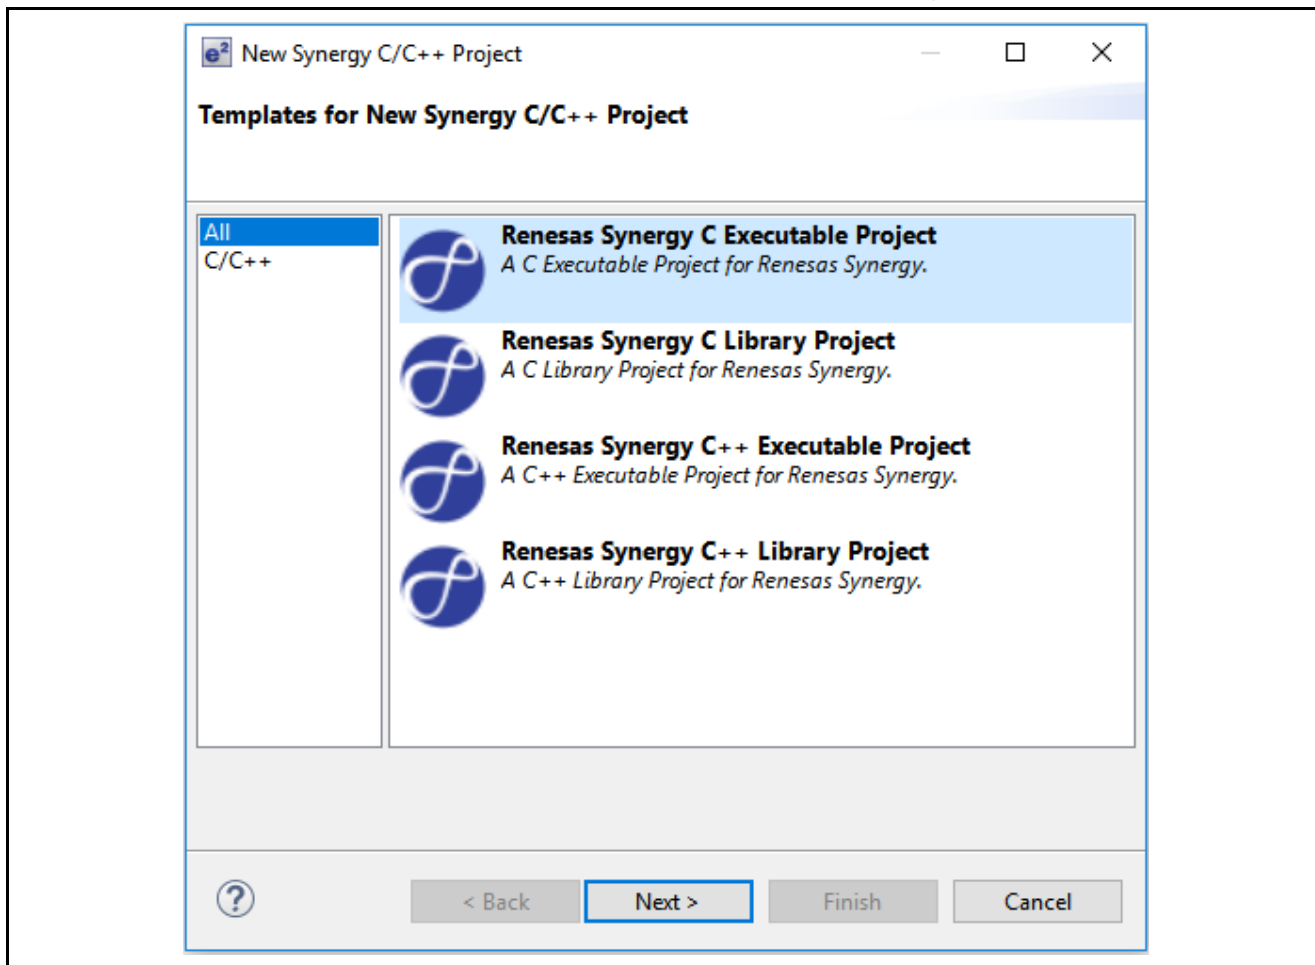

Figure 5. Choose “Renesas Synergy C Executable Project”
3. Choose **Renesas Synergy C Executable Project** and click **Next** (see Figure 5).